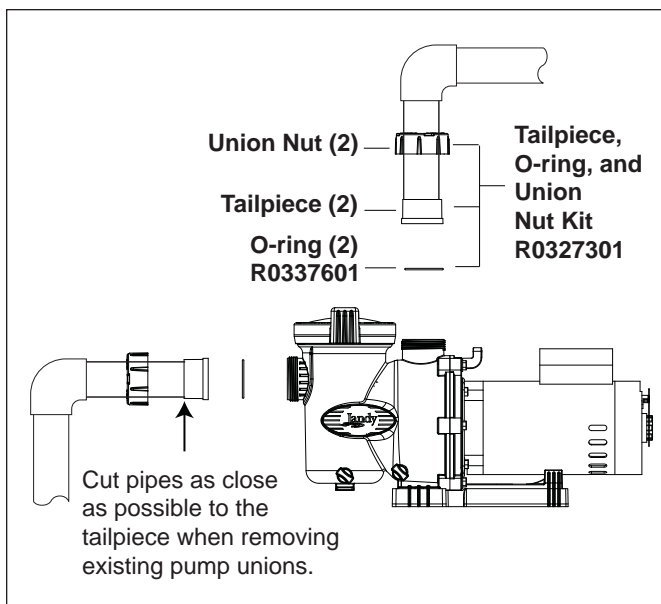

Figure 3. Tailpiece, O-ring, and Coupling Nut Kit
Refer to Figure 3 and the associated parts list to identify the parts included in the replacement kits.
2. Loosen the union nuts on the inlet and outlet ports and pull them away from the pump body, as shown in Figure 3. If necessary, use a spanner wrench to help loosen the union nuts.
- a. Cut the inlet and outlet pipes as close as possible to the existing tailpieces, as shown in Figure 3.